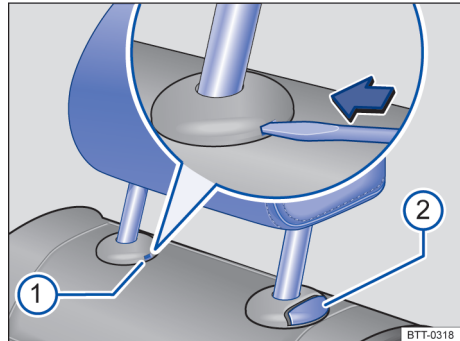

Fig. 61 Remove rear seat head restraints
- Insert the open vehicle key head or screwdriver cutter head into the slot of the sheath → Fig. 61①.
- Press button → Fig. 61② at the same time, and another person will pull the head restraints out completely.
- Press and hold button → Fig. 61② while pushing down the head restraints.